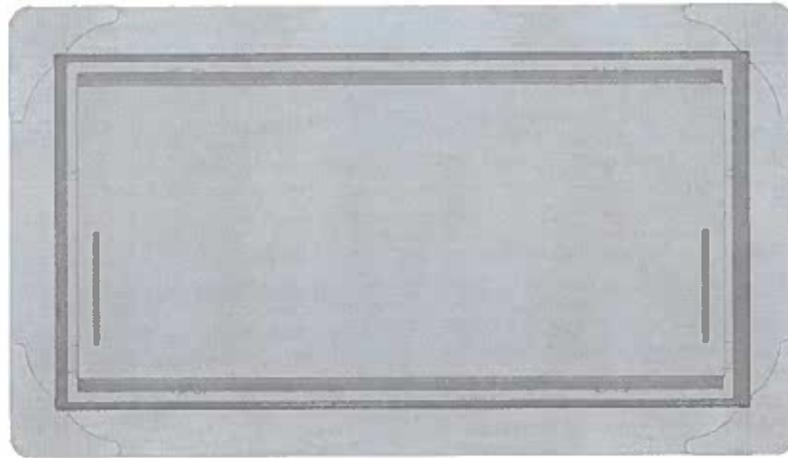

FIGURE 2—SMART VENT MODEL 1540-520
3. APPLY A BEAD OF HURRIBOND GRIP & SEAL OR EQUIVALENT ADHESIVE AROUND THE BACK OF THE FLANGE ON THE VENT FRAME. (FIG. 2)